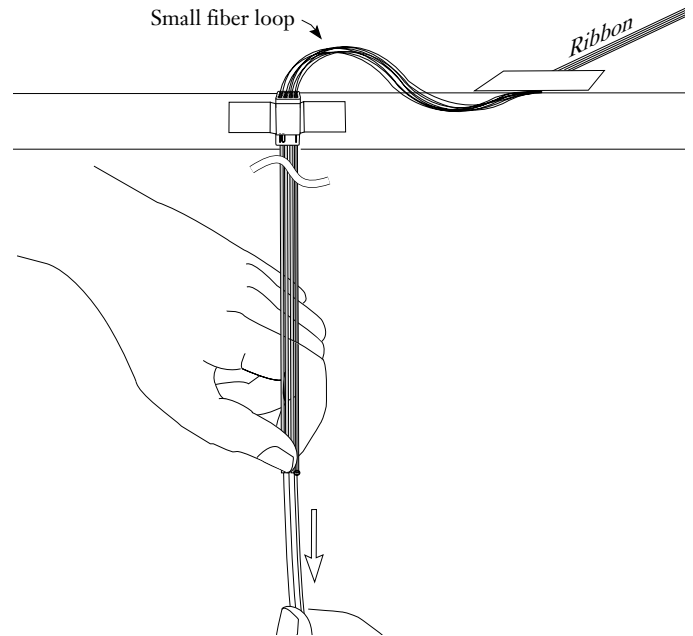

Figure 17
7.5 Push all twelve fibers as a group until they protrude from the other ends of the tubes. Carefully pull the protruding fibers out of the tube ends to take up the excess fiber length at the table edge. Leave a small fiber loop at the table edge to prevent fiber breakage during the remaining threading operations (Figure 17).